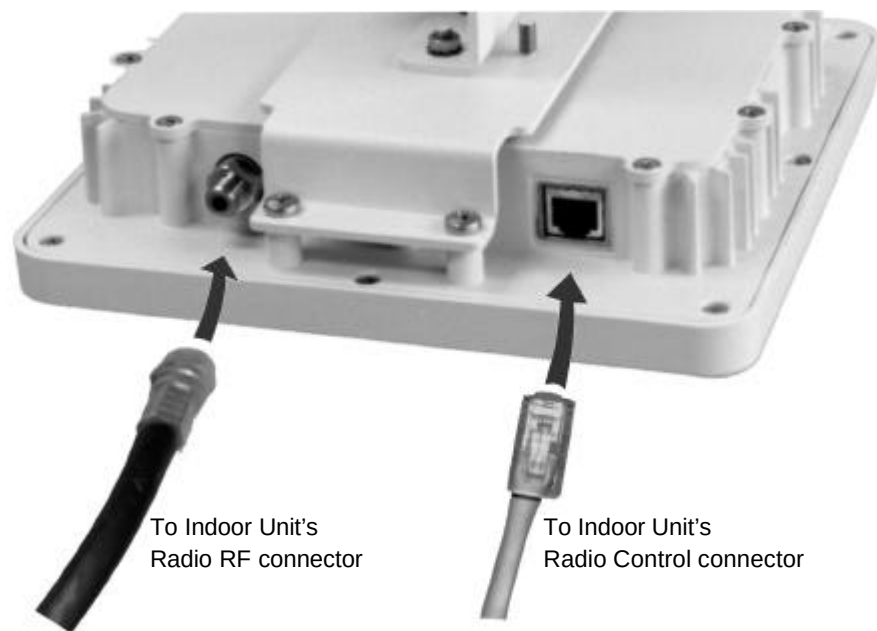

Figure4-2 **Connections to the Outdoor Unit (Radio/Antenna)**
The connectors on the Outdoor Unit are located on the back, at the bottom of the radio enclosure, as shown in *Figure 4-2*.
3. Attach the cable to the female F connector on the Outdoor Unit, as shown in *Figure 4-2*. Tighten the connector until the cable is firmly secured, but do not overtighten.
4. Plug the cable into the RJ45 socket on the Outdoor Unit as shown in *Figure 4-2*.